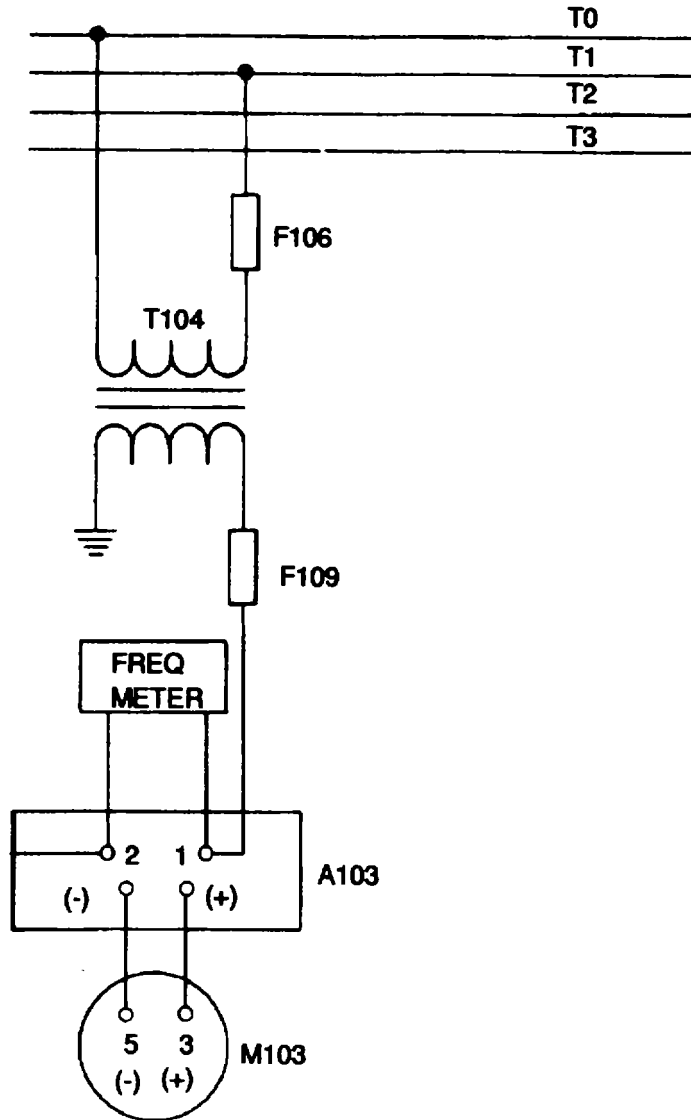

Figure 10-11. Frequency Transducer A103, On Equipment Test Setup
- (1) With generator set shut down, open upper cabinet B door. Refer to Figure 10-11. Connect a frequency counter into the line connected to transducer AI 03 terminal 1.
- (2) Start the generator set in accordance with the Operator and Organizational Maintenance Manual.
- (3) When the engine has reached operating speed, compare the frequency indicated by the frequency counter with the frequency indicated by frequency meter MI 03 (located on cabinet B door).
- (4) If the two frequency indications differ by not more than 1.2 hertz, then there is nothing wrong with the functioning < of transducer AI 03 or MI 03. Proceed as follows:
- (5) If the two frequency indications differ by more than 1.2 hertz, then frequency transducer AI 03 and frequency meter MI 03 must be removed and replaced as a matched set Proceed as follows: